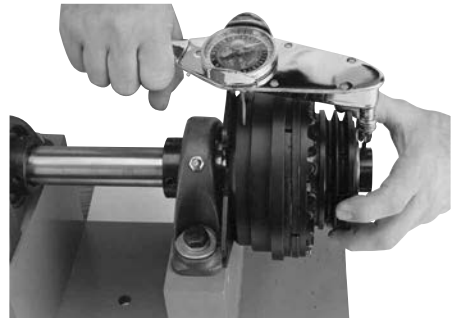

Figure 5
6. Tighten the hub setscrews into the shaft (See Figure 5) to the appropriate torque for your size unit: